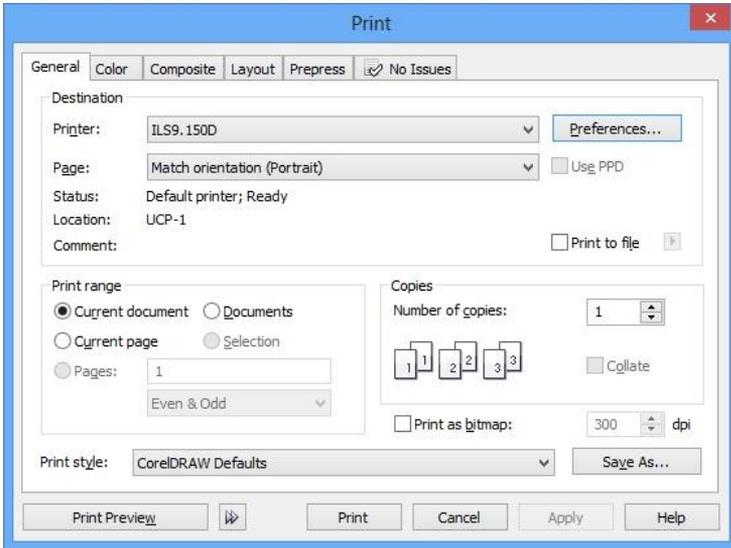

Figure 15: Print Dialog Box
21. In the File menu, click on **PRINT** and the print window will pop-up. We are not ready to print yet (Figure 15).
22. Under **PRINT RANGE**, make sure you have the box selected for the option you need (Figure 15).
33. Select **PRINT** in the Print dialog window (Figure 15).